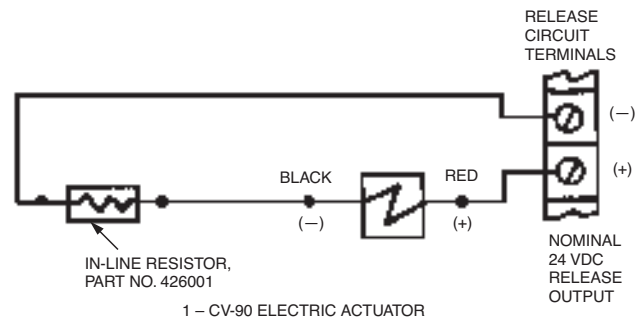

FIGURE 2
- Figure 2 shows a typical diagram for wiring one CV-90 electric actuator (Part No. 426877) to the release circuit of AUTOPULSE microprocessor-based control panel Polarity must be observed when wiring this circuit. (Always check with the control panel manual for specific details pertaining to release circuit wiring.)